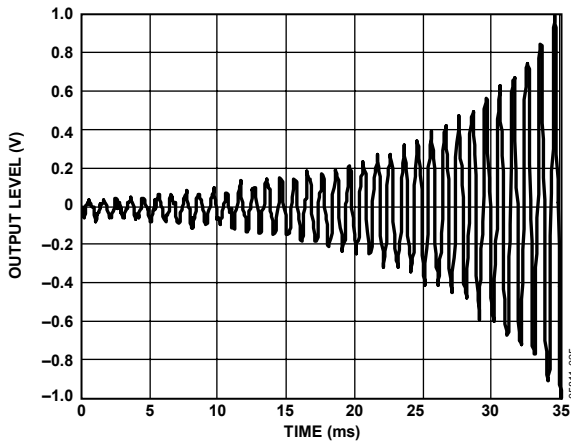
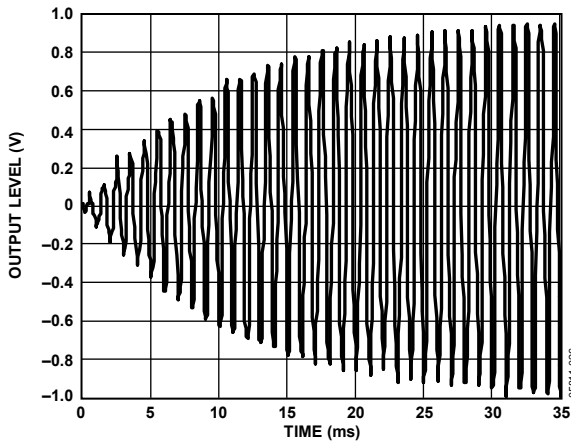
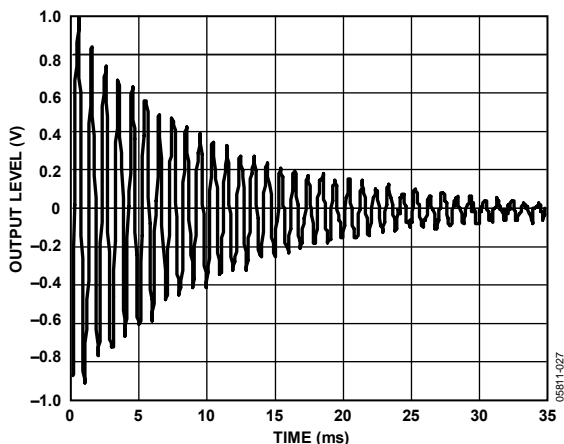

Figure 25. Slew RAM—Constant dB Update Increasing Ramp
Figure 26. Slew RAM—RC Update Increasing Ramp
Figure 27. Slew RAM—Constant dB and RC Updates Decreasing Ramp, Full Scale
An exponential update is accomplished by shifts and additions with a range from 6.1 ms to 1.27 sec (-60 dB relative to 0 dB full scale). When the ramp type is set to 01 (constant dB), each step size is set to the current value in the slew data. When the ramp type bits are set to 10 (RC), the step size is equal to the difference between the values in the target RAM and the slew RAM (see Figure 25, Figure 26, and Figure 27).